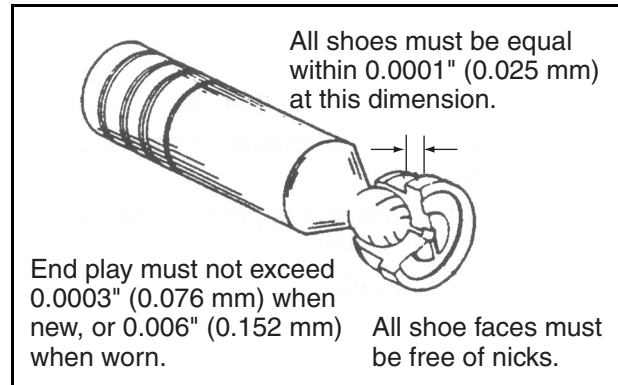

Figure 8D-8. Piston and Shoe Thickness
- Check each shoe for proper thickness (See Figure 8D-8). All shoes must be equal within 0.001" (0.025 mm). The shoes should be replaced as a set.